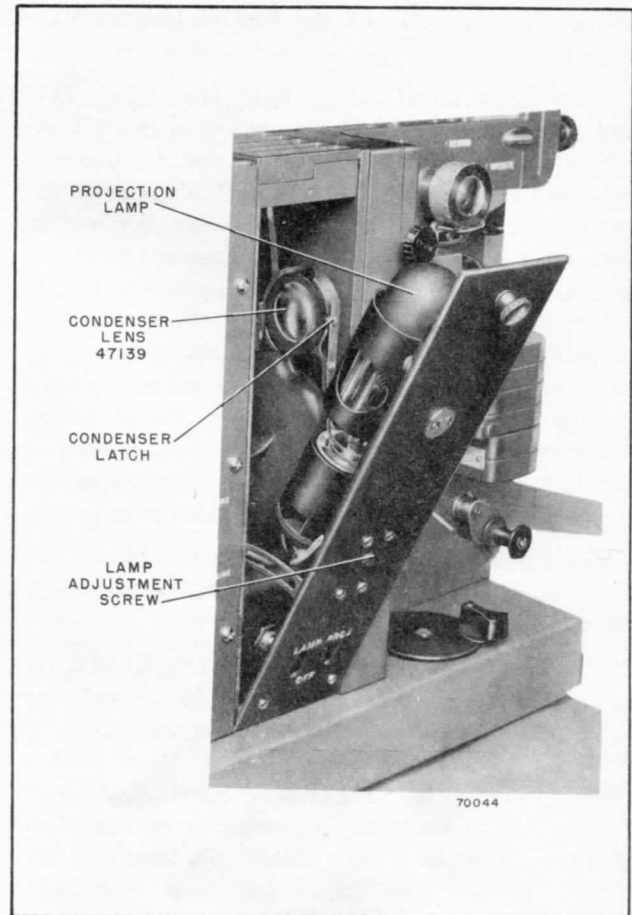

Figure 5 - Lamp House Open for Servicing
Refer to figure 5 for location of the LAMP ADJUSTMENT screw on the "Senior" model. Whenever a new lamp is installed the screen illumination should be checked, without film in the picture gate, for uniform distribution of light on the screen. To make the adjustment turn the LAMP ADJUSTMENT screw to the right or left as required, until the screen is lighted uniformly.
a. *The condenser lens (figures 5 and 6).* To remove the condenser lens, pull out on the latch and withdraw the lens assembly from its mounting with the left hand. Clean and replace the lens, taking care not to touch the lens surface with the fingers.
a. *The projection lamp (figure 5).* To remove this lamp, press down on it firmly and turn it counterclockwise about 90 degrees until it releases from its socket. Wipe it clean with a cloth and return it to its original position. Be very careful not to leave any fingerprints on the clear portion of the lamp; such prints will burn into the glass and definitely impair the lamp efficiency. *Be sure the lamp is cool before attempting to remove it, or use a heavy cloth to protect the fingers.*
1. *The projection lamp (figure 5).* If the lamp burns out during a show, turn OFF the projector and the lamp switches. Remove the lamp as described under "Cleaning", paragraph 2a, using a heavy cloth to protect the fingers. To install the new lamp, line up the wide and narrow flanges on its base with the mating socket slots and insert the lamp. Press the lamp down and turn it clockwise until it "clicks" into place. Avoid getting fingerprints on the clear portions of the lamp. Turn the projector switch to PROJ., the lamp switch to LAMP, and resume the show.
| Lamp, projection (see figures 5 and 6) | 28448 |
| Lens, condenser lens, front (see figures 5 and 6) | 47138 |
| Lens, condenser lens, rear (see figures 5 and 6) | 47139 |